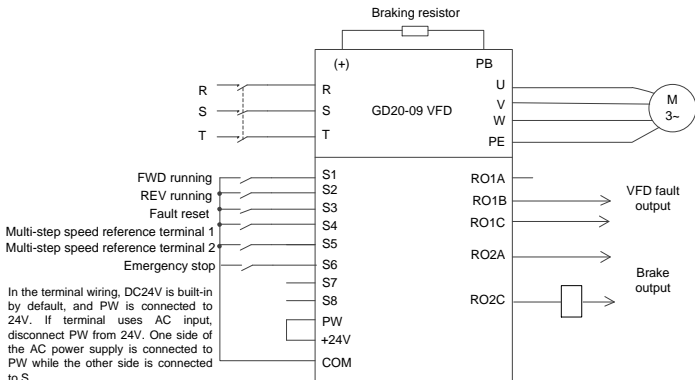

Figure 4-2 Wiring for lifting in space voltage vector control
**Note:** If the wiring is performed according to Figure 4-2, most VFD parameters need no adjustment. If the onsite function terminals are inconsistent with the terminals shown in the figure, manually adjust the input and output terminal functions according to the actual wiring after selecting the space voltage vector controlled lifting application macro.